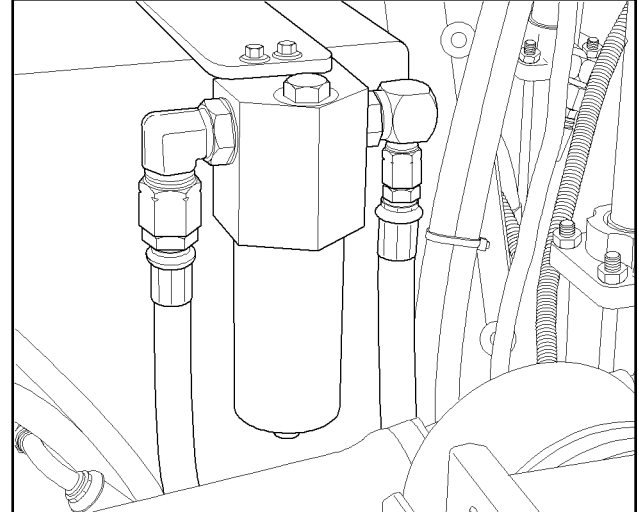

**FIGURE 4-7. LOW-PRESSURE
3. Locate the hydraulic filter on the right side of the Curber (Figure 4-7).